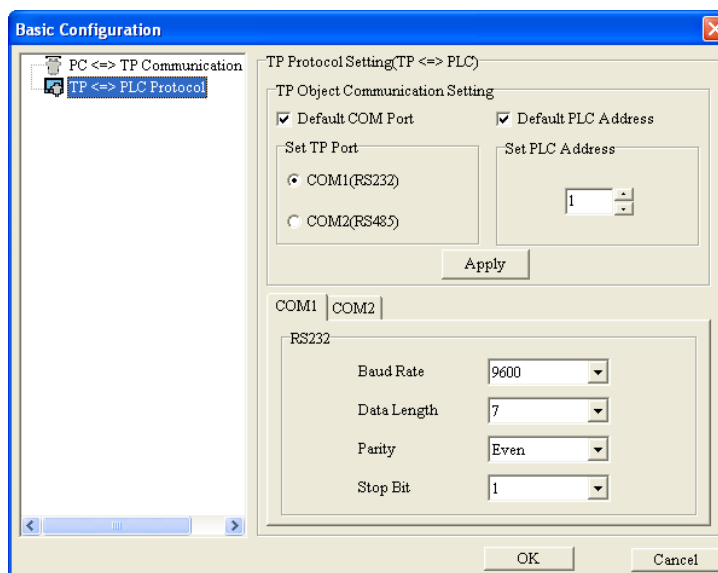

Figure 3-14 TP&lt;=&gt;PLC Protocol
- **TP<=>PLC Protocol:** Users can set the communication between a TP series text panel and the equipment connected to the TP series text panel, as shown in Figure 3-14.